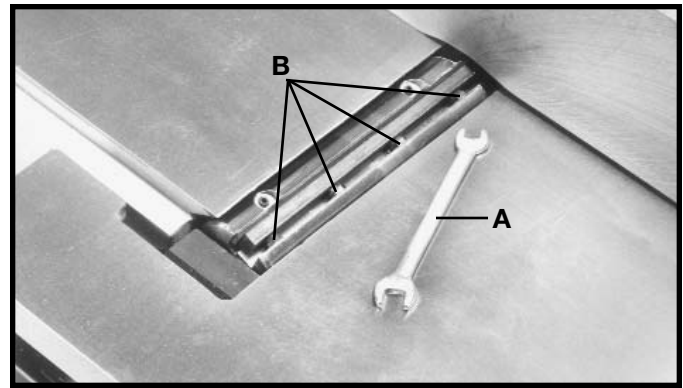

Fig. 54
2. Using wrench (A) Fig. 54, slightly loosen the four locking screws (B) in each knife slot by turning the screws (B) clockwise.
3. Loosen screws (B) Fig. 54, further and remove knife and knife locking bar.
**⚠ WARNING** **CARE MUST BE TAKEN WHEN INSERTING THE KNIVES AS THE CUTTING EDGES ARE VERY SHARP.** Push the knife down as far as possible and snug up the screws (B) Fig. 54, by turning each screw counterclockwise just enough to hold the knife in position. Replace the remaining two knives in the same manner.